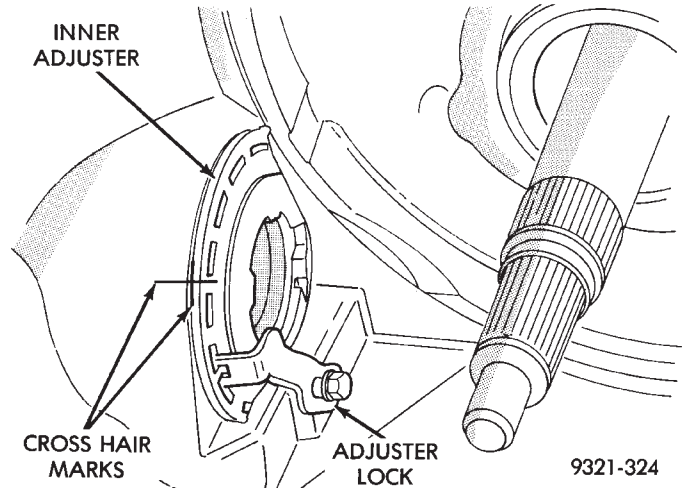

Fig. 58 Indexing Inner Adjuster
- (5) Index the inner differential adjuster with a cross hair as shown in (Fig. 58).